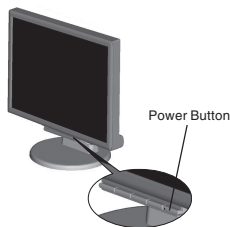

Figure C.1
4. Connect all cables to the appropriate connector on the back of the monitor (**Figure B.1**). Connect the Headphone (not included) to the appropriate connector at the rear side of the monitor (**Figure C.1**).
- Turn on the monitor with the front power button and the computer (Figure C.1).